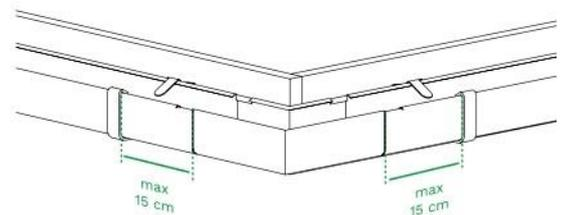

Figure 19
- 5.1. Place the brackets at a maximum distance of 15 cm from the corner (Fig. 19).